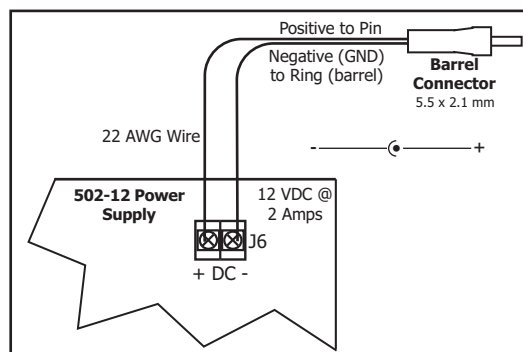

Figure 4: Power Supply Connection
4. Use 22 AWG wire and connect the positive wire to the pin and negative wire (GND) to the ring (barrel) on a 5.5 x 2.1 mm barrel connector. See Figure 4.